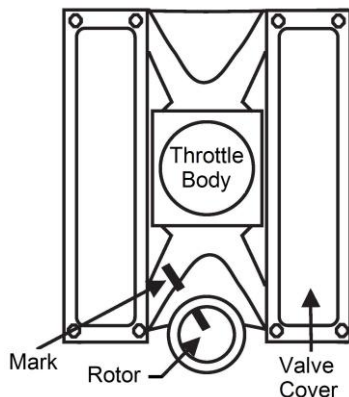

Figure 1 – Marking the Rotor Location
2. With the cap off, crank the engine until the rotor is aimed at a fixed point on the engine or firewall. Note this position by making a mark (**Figure 1**).
3. With the cap off, turn the engine over until the rotor is aimed at a fixed point on the engine or firewall. Note this position by making a mark (**Figure 1**).